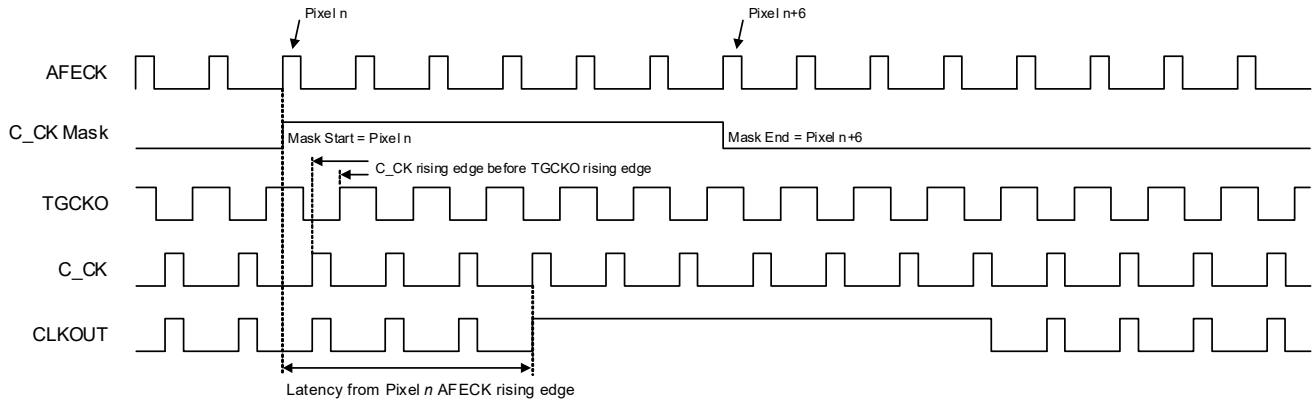

Figure 4-63. Clock Mask Timing—C_CK before TGCKO
- If the rising edge of C_CK occurs before the rising edge of TGCKO (each measured from the rising edge of AFECK), the mask begins at the fourth C_CK rising edge following the Pixel *n* AFECK rising edge, as shown in Fig. 4-63.